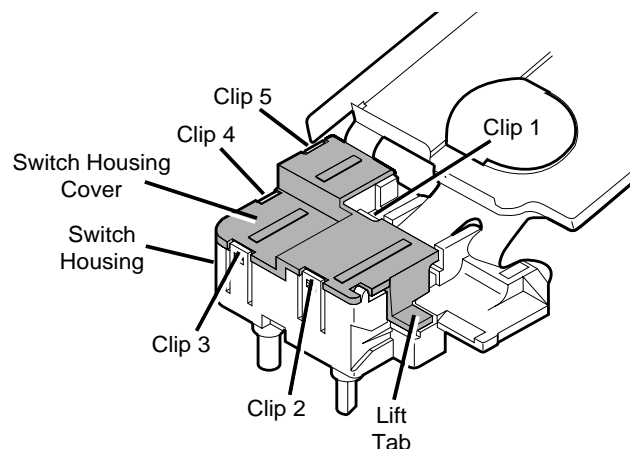

Figure 10 Switch Housing Retaining Clips
- a. Five retaining clips hold the switch housing cover to the switch housing. Clips 1, 2, and 3 are important during disassembly (see Figure 10).